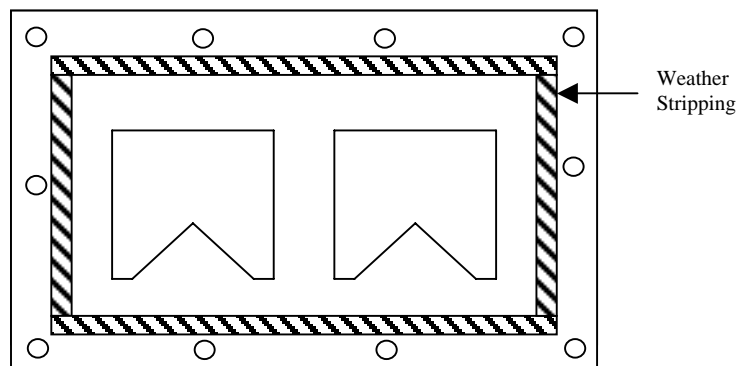

Figure 1: Suggested Weather-Stripping
- 5) Install weather-stripping completely around the inside edges of the outside-mounted MFJ-461X RF/Coax Feed-Thru Panel. Mounting the weather-stripping just inside the panel mounting screw holes as shown in Figure 1 below easily does this.